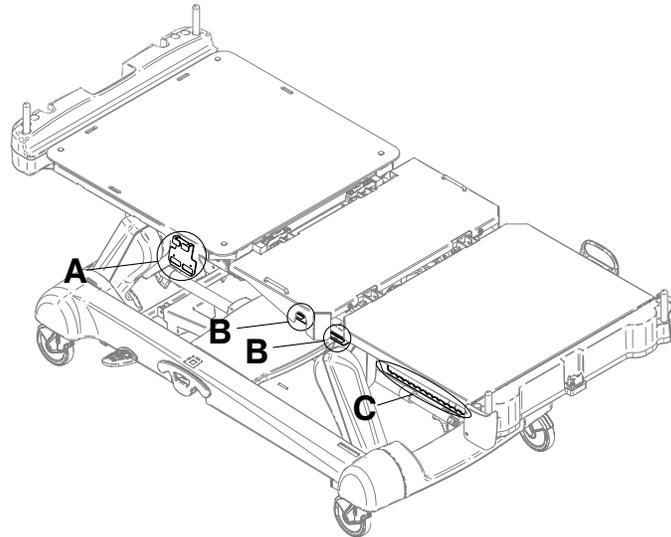

Figure 10: Foley bag hooks
There are two isolated foley bag hooks under the seat section (B) on both sides of the product (Figure 10 on page 26). If you weight the patient with the scale system, the isolated foley bag weight is not included with the patient weight.
There are four foley bag hooks under the fowler section (A) and foot section (C) on both sides of the product (Figure 10 on page 26). If you weigh the patient with the scale system, the foley bag weight is included with the patient weight.